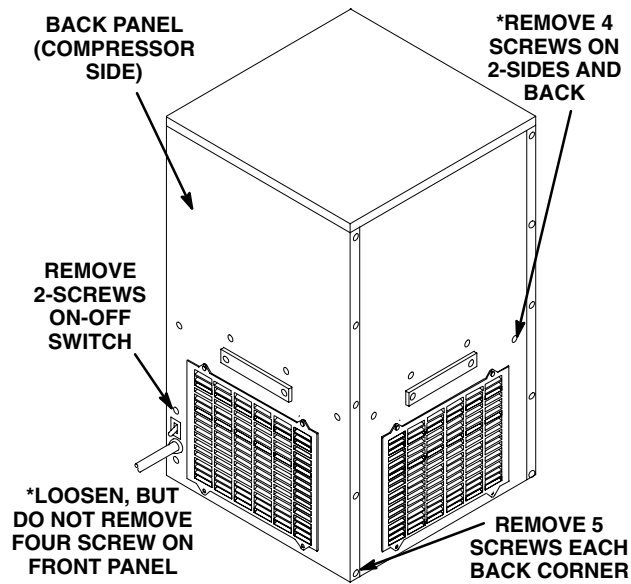

FIGURE 2. COOLING UNIT PANELS
7. Remove back panel for access to the compressor. See Figure 2.